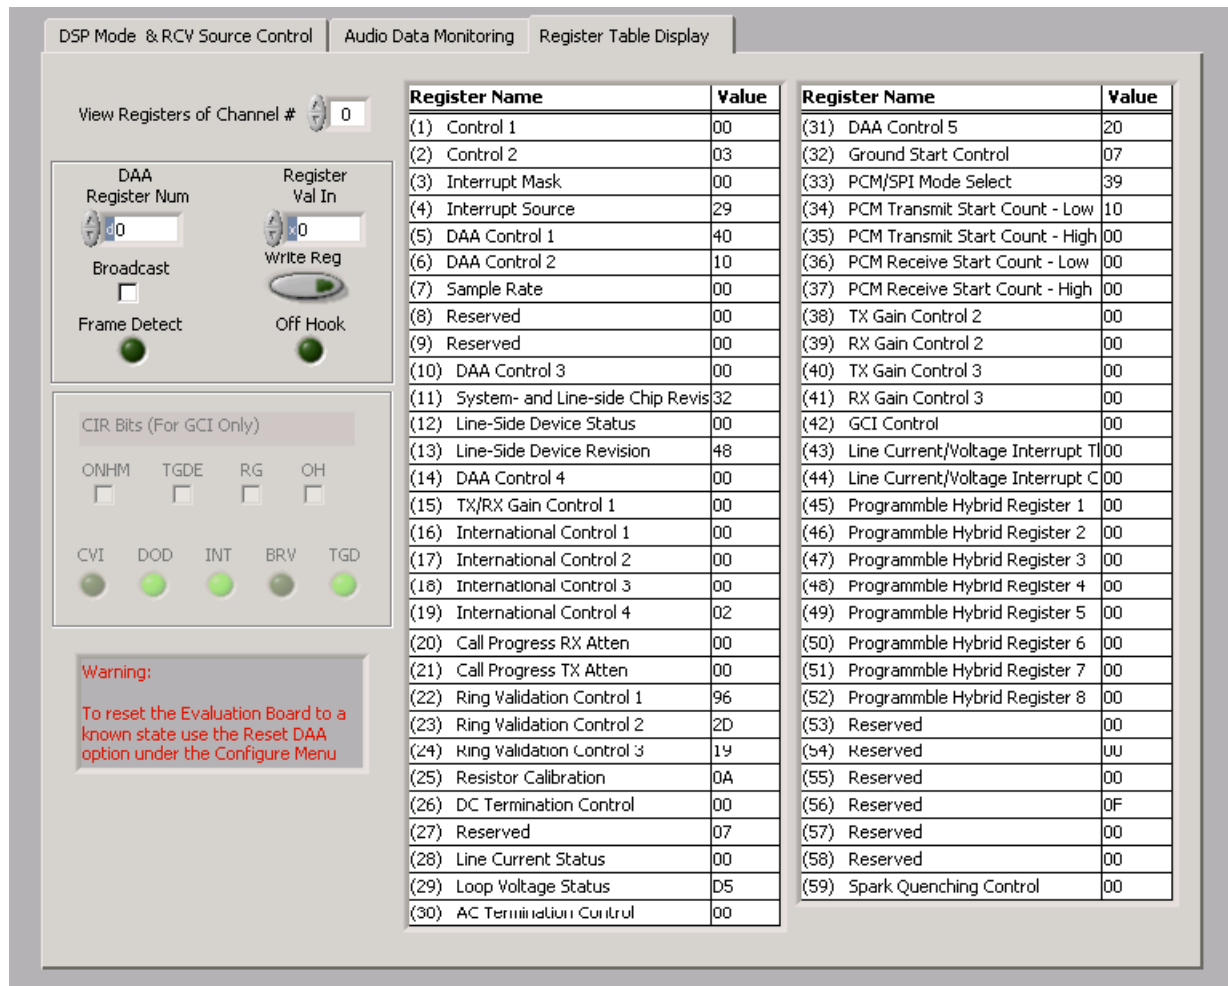

Figure 4. Si3050PPT-EVB Evaluation Software in the Register Table Display View
The DAA Register view allows the Si3050 DAA registers to be read or written. The user interface for the DAA Register view is shown in Figure 4. Operation of the front panel in the DAA Register view is detailed in the following list:
- Figure 4 updated